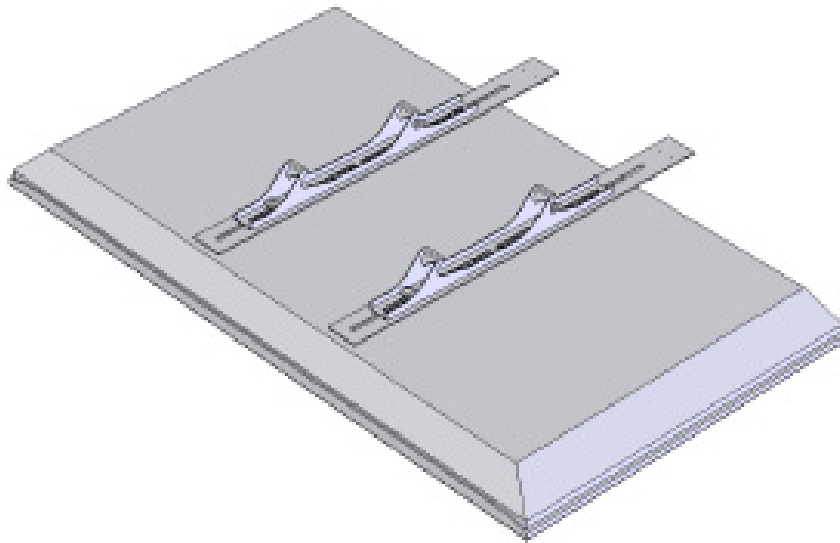

Figure 1
3. Position both TMBs vertically on the rear of the display so that the slots line up with the wall mounting points on the television's chassis. One bracket should be placed vertically across one set of mounting points and one bracket should be placed vertically across the other set of mounting points. Make sure to leave the ends with two threaded screw holes on the side of the television that you want to mount the speaker. **See Figure 1.**